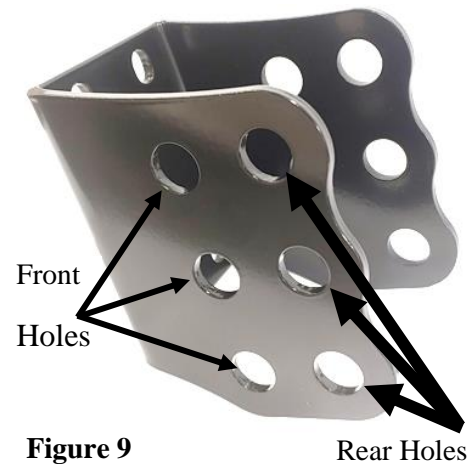

Figure 9
15. Install the bushing end of the lower trailing arm into the middle front hole of the QA1 front mount with the grease fitting facing down. The front set of holes in the mounting bracket are the factory location. Further rear wheel placement can be adjusted using the rear row of holes. **(Figure 9)** Attach using 5/8" x 4" bolts, with two washers and nylock nut. The rear axle will need to be mocked up with these lower control arms, the shocks, and the upper trailing arms so attaching these lower control arms to the axle is not needed at this time.